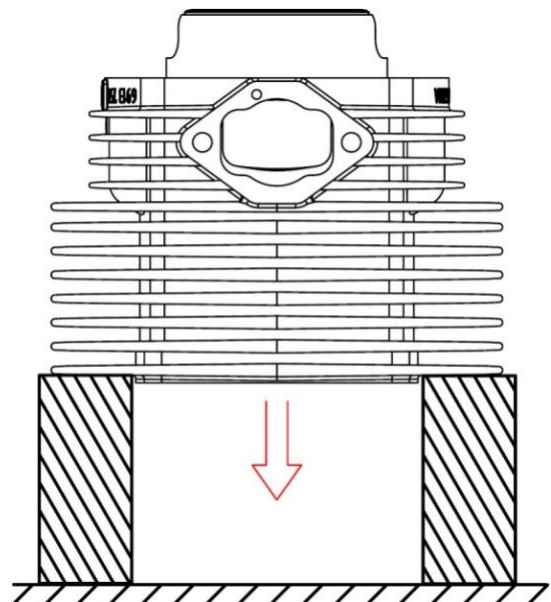

Figure 3: Old cylinder in oven at 220 °C; sleeve will fall down by own weight
4. Place the cylinder with old sleeve in an oven upside down (see Figure 3). Heat cylinder to a maximum of 220 °C [428 °F].